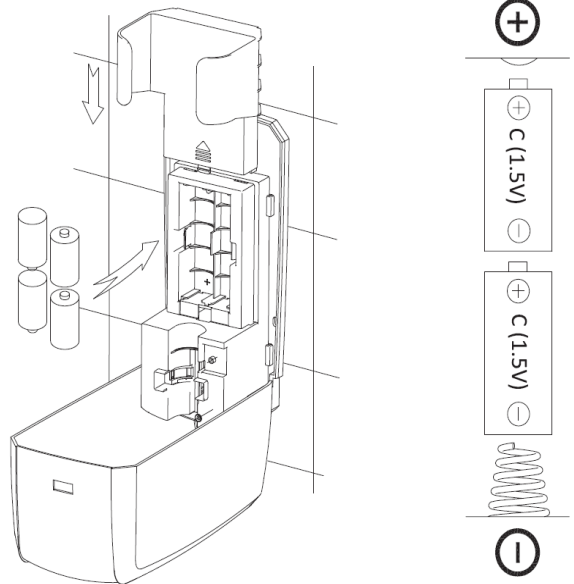

Fig. 6
8. Remove the battery cartridge cover, load 4 pcs alkaline C size 1.5V batteries and close battery cover, see Fig 6.
4. Remove the battery cartridge cover, load 4 pcs alkaline C size 1.5V batteries and close battery cover, see Fig 6.